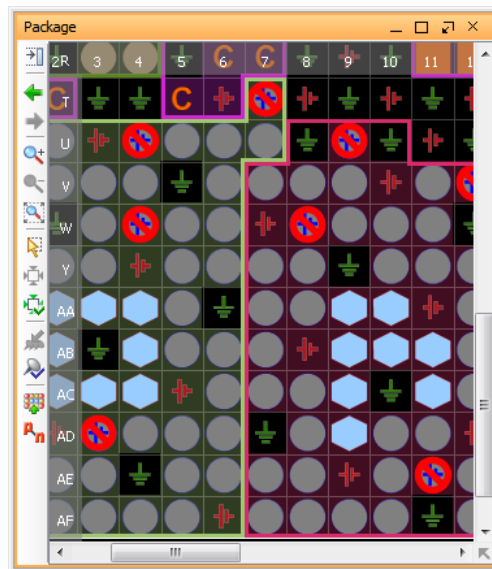

Figure 8: Prohibited Package Pins
7. Zoom in to an area of the Package view to view the Prohibited pins marked with red , as shown in Figure 8.